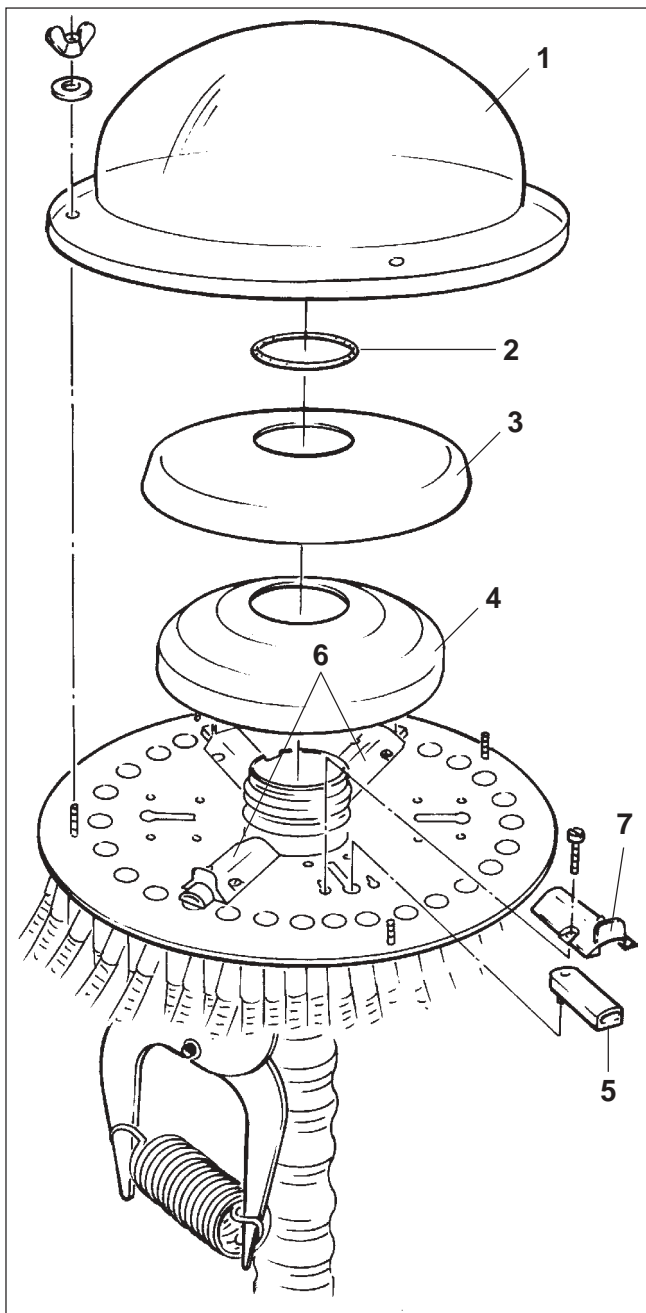

Fig. 26.23
- Demount distributor outer hood (Fig. 26.23/1), O-Ring (Fig. 26.23/2), distributor inner hood (Fig. 26.23/3) and foam material insert (Fig. 26.23/4) .
It is possible to fit up to 6 shutter slides. Always two shutter slides (Fig. 26.23/6) should be fitted on the base plate opposing each other. For mounting resp. demounting the shutter slide the shutter slide tunnel (Fig. 26.23/7) has to be removed.